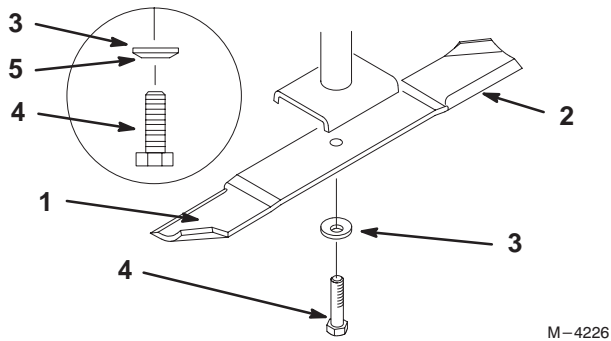

Figure 20
1. Hold the blade end using a rag or thickly-padded glove. Remove the blade bolt, spring disk and blade from the spindle shaft (Fig. 20).
1. Install the blade onto the spindle shaft (Fig. 20).
2. Install the spring disk and blade bolt. The spring disk cone must be installed toward the bolt head. (Fig. 20). **Torque the blade bolt to 85–110 ft-lb (115–150 N•m).**